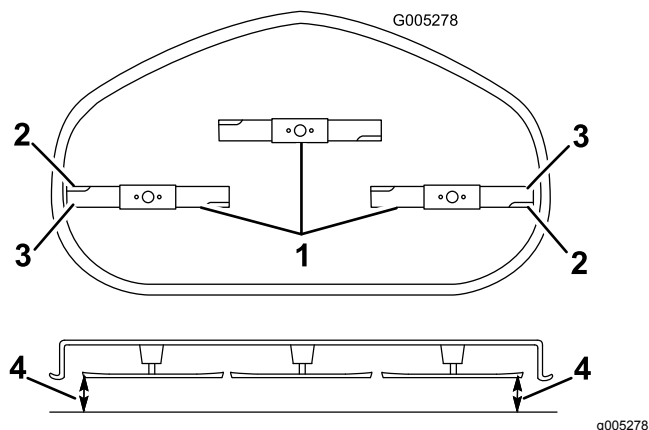

Figure 52
4. Carefully rotate the blades so that they are all side to side (Figure 52).
5. Measure between the outside cutting edges and the flat surface (Figure 52). If both measurements are not within 3/16 inch (5 mm), an adjustment is required; continue with this procedure.